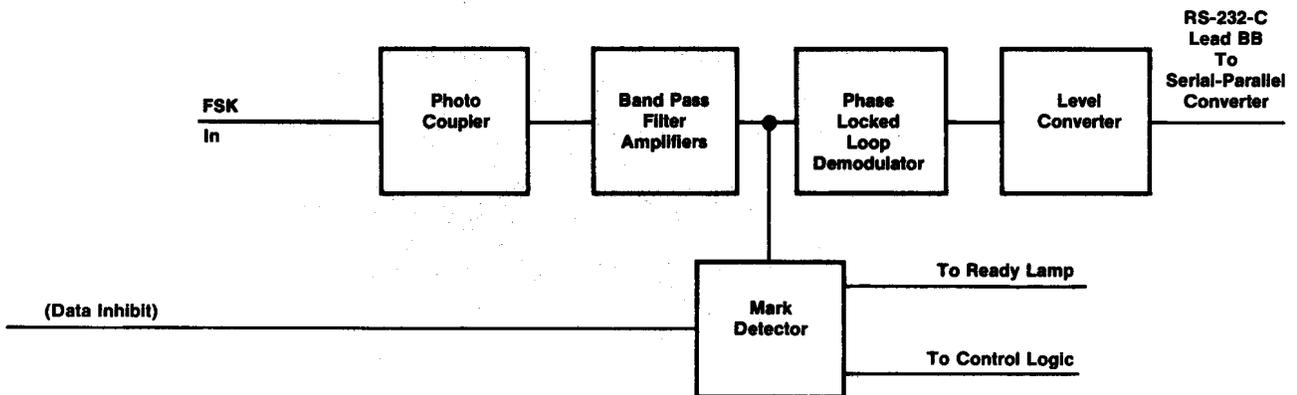

Figure 8, Demodulator Functional Block Diagram
3.06 Demodulator functions are shown in Figure 8. FSK data enters the photo coupler isolating circuit from the telephone network. The signal is then presented to the bandpass filters which are tuned to the f2 frequencies and passed through a notch filter to remove f1 frequencies. The filter output is taken through a limiting amplifier which feeds the phase-locked loop demodulator.